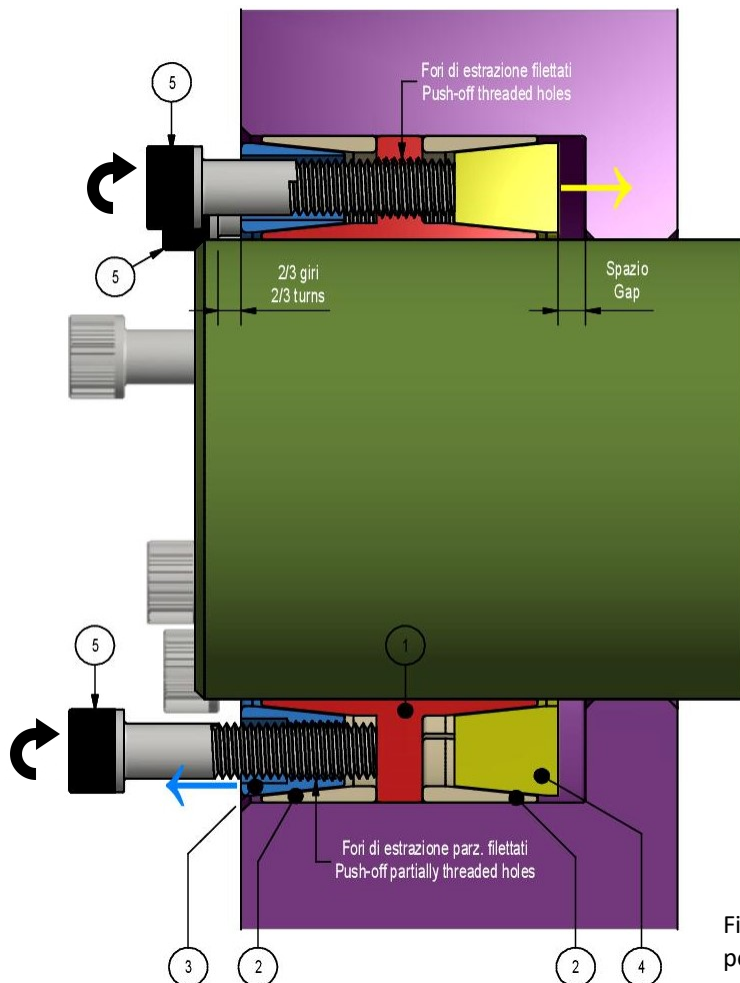

Fig. 2. Disengagement of thrust rings and positioning of Locking Assembly.
2. **For ease of installation, thrust rings shall be disengaged** (fig. 2). Loosen all screws by two/three turns; then transfer and hand tighten at least two screws into the push-off threaded holes in the front thrust ring and at least two screws into the push-off threaded holes in the inner ring, accessible via corresponding clearance holes in the front thrust ring.
3. Insert Locking Assembly into the hub bore and make it slide onto the shaft, making sure that connected components are positioned as required. **Inner respectively outer rings shall be completely supported by shaft respectively hub bore** (fig. 2). At this point, relocate the screws used to disengage the thrust rings. Installation into hubs with shoulder requires a few mm's gap between rear thrust ring and shoulder (fig. 2).